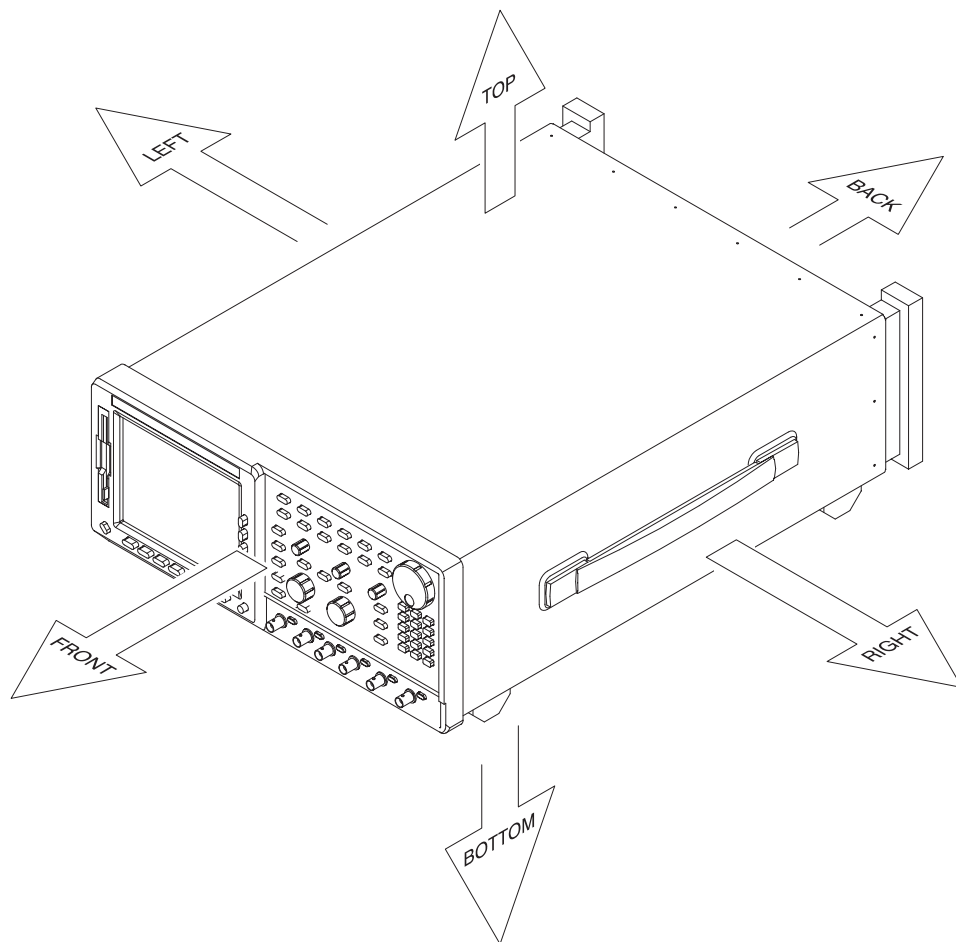

Figure 6–1: Instrument orientation
- Three module-locator diagrams for finding the External Modules (see Figure 6–2), Outer-Chassis Modules (see Figure 6–3), and Inner-Chassis Modules (see Figure 6–5).
The procedures refer to “front,” “right,” “top,” and so on. of the waveform generator. Figure 6–1 shows how the sides are referenced.
1. Find the module to be removed in Figures 6–2 through 6–5.
3. Remove the knob(s) by pulling it straight out from the front panel slightly to create some clearance between the base of the knob and the front panel. Insert the tweezers between the knob and front panel, and use them to remove the knob. See Figure 6–6.